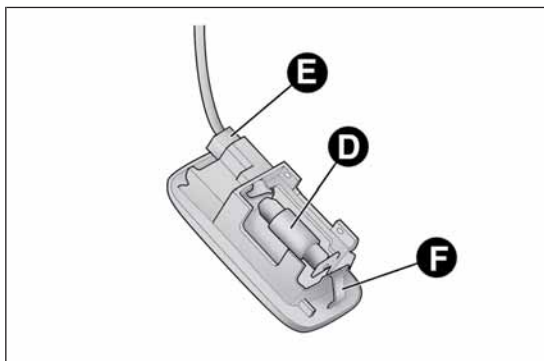

fig. 147
- remove protection B, releasing it from tabs C, then replace bulb D fig. 147 by pulling it outwards and releasing it from the side contacts;
- refit the roof light, inserting it first from side E fig. 147, then press on the other side until you hear tab F click into place.